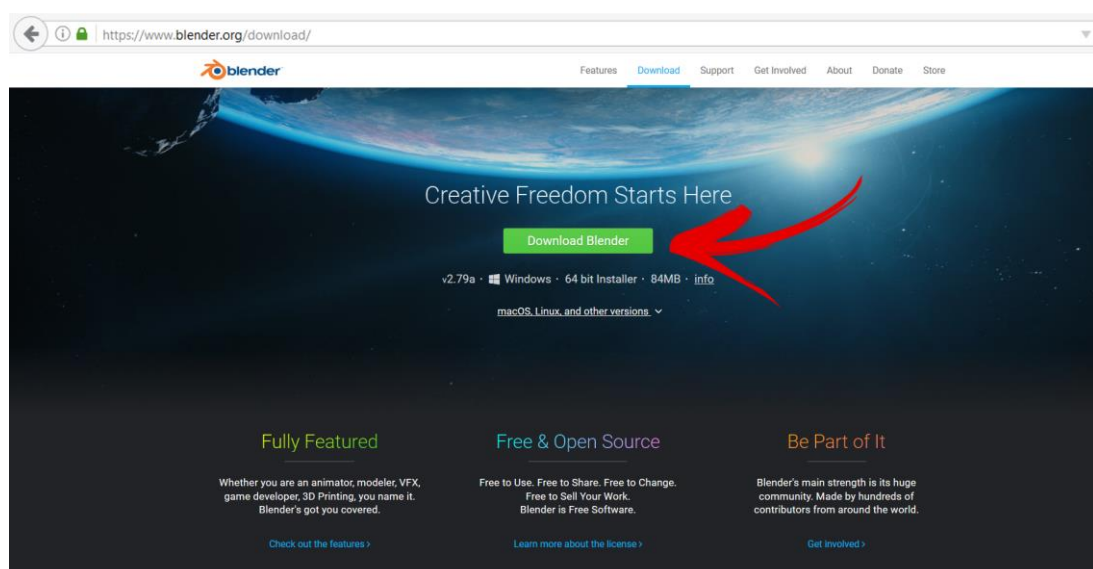

Figure 1
1. Download the Blender software version 2.79a here: <https://www.blender.org/download/> see Figure 1.